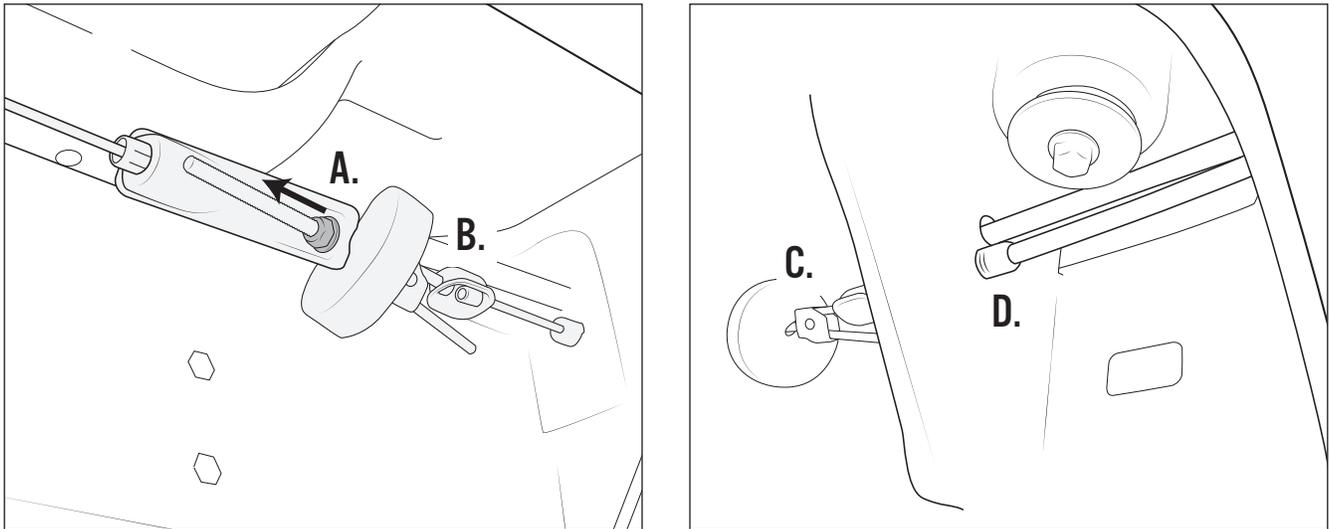

Figure 50
3. Disconnect parking brake cable (fig. 50).